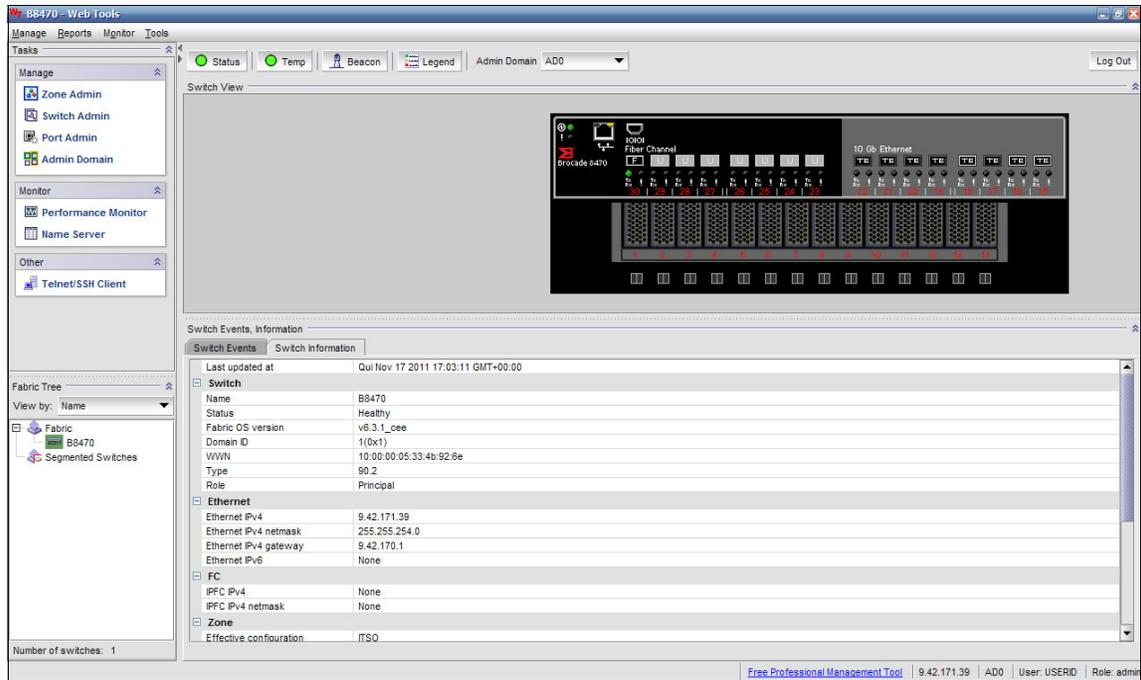

Figure 10-135 WebTools window
3. In the left pane (Figure 10-135), click **Zone Admin**.